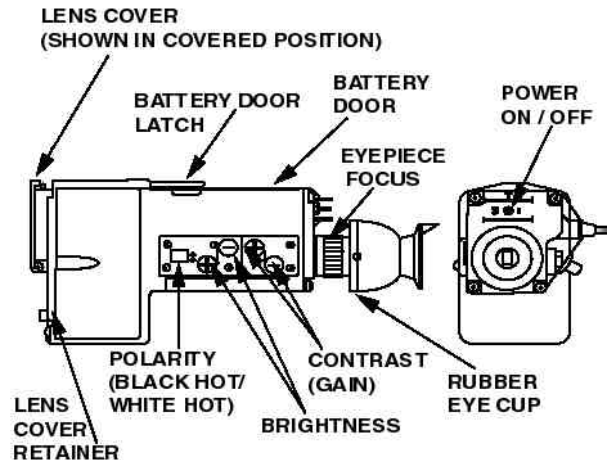

Figure 2-3. Thermal Night Sight (AN/PAS-18 WASP).
- 1 **AN/PAS-18 Thermal Night Sight.** The AN/PAS-18 WASP receiver, IR system (see fig. 2-3 on page 2-6) is a rugged, lightweight, thermal imaging sight that easily mounts on the Stinger missile round to provide 24-hour mission capability. The